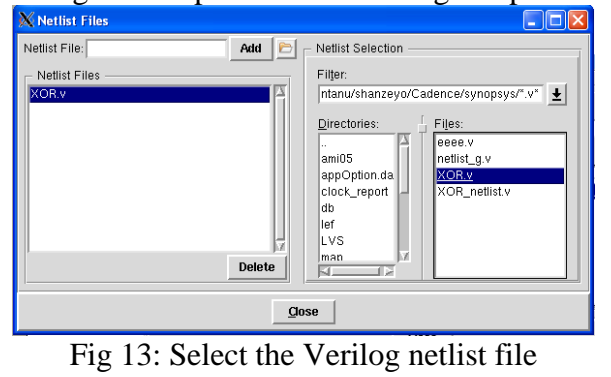

Fig 13: Select the Verilog netlist file
- In the dialog box that pops up, click the folder icon next to the **Add** button to browse to the Verilog file **XOR.v**. Select this file, then press the **Add** button, and select the filepath in the left hand pane as shown in Fig 13. Then click the **Close** button. The filepath of the Verilog file of XOR gate should now appear in the **Files** text box in the Design Import window.